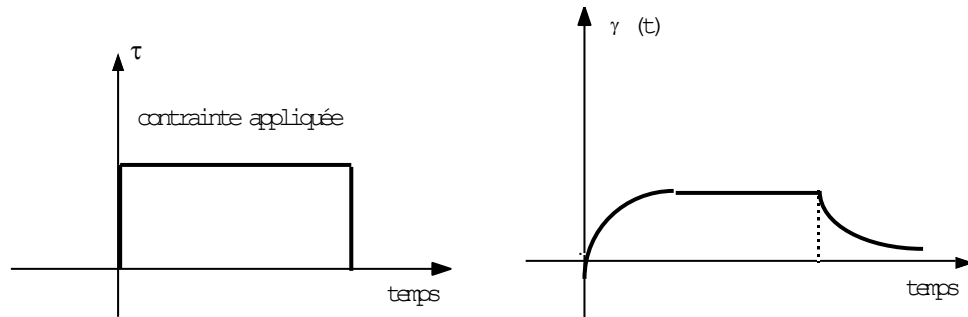

Fig. 2 : Dynamic viscosity
This is the law of shear stress, where  $G$  is the shear modulus, and depends on the studied material. However, if we pay closer attention to the deformation, we notice that angular deformation  $\gamma$  is a function of time (Fig. 2). The value  $\gamma$  established in equation (2) only represents the asymptotic value of the deformation. Instead, the full equation becomes: